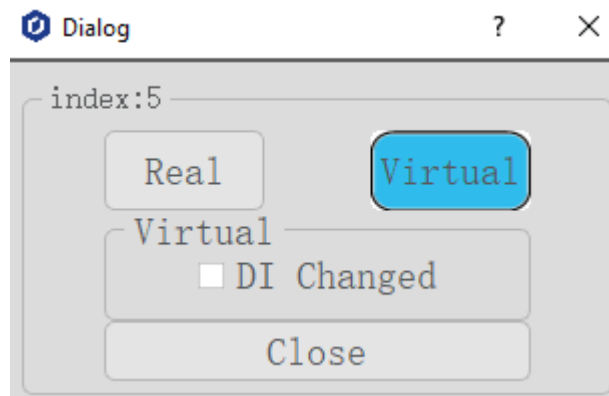

Figure 3.32 Simulation
- Simulation: Simulate the digital input for debugging and running program, as shown in Figure 3.32.